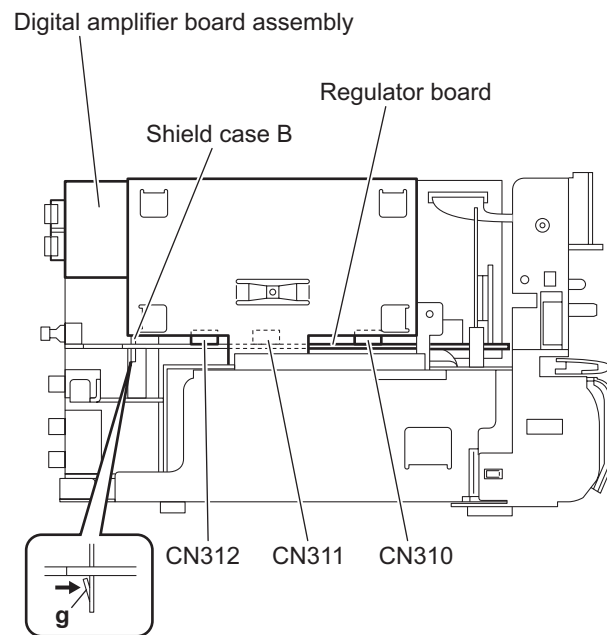

Fig.16
- From the left side of the main body, disconnect the connectors (CN310, CN311, CN312) on the digital amplifier board assembly from the regulator board. (See Fig.16.)
- Release the joint **g** of the shield case B in the direction of the arrow and take out the digital amplifier board assembly from the main body. (See Fig.16.)